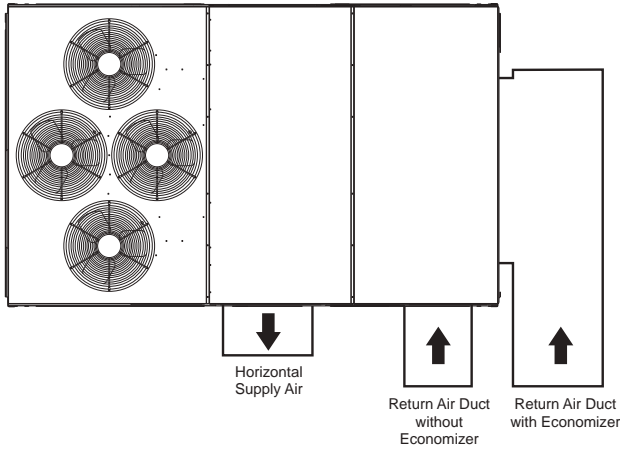

Fig. 12 — Horizontal Duct Opening Dimensions
Step 7 — Horizontal Duct Connection — Refer to Figs. 2, 3 and 4 for locations and sizes of the horizontal duct connections. Note that there are two different return air duct connection locations – one for unit without an economizer (on back side of unit) and a different one for unit equipped with an economizer (on left end, under the economizer hood). The supply air duct connection is on the back side. See Fig. 12 for top view depicting typical horizontal duct arrangements.
Field-supplied (3/4-inch) flanges should be attached to horizontal duct openings (see Fig. 12) and all ductwork should be secured to the flanges. Insulate and weatherproof all external ductwork, joints, and roof or building openings with counter flashing and mastic in accordance with applicable codes.